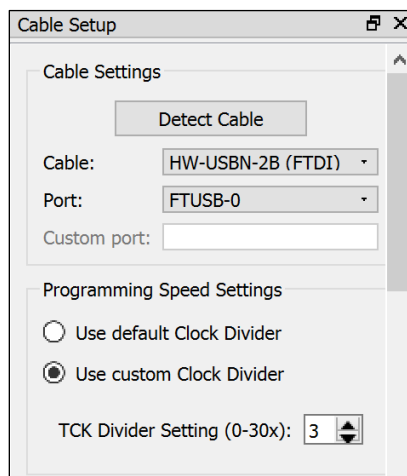

Figure 8.1. TCK Frequency Setting
- If you are getting a verification error while programming the .bit file, try changing the TCK frequency to a value greater than 4. The TCK Divider Setting option is in the Cable Setup dialog box of the Radiant Programmer window, as shown in Figure 8.1. Restart programming by clicking the Program button.